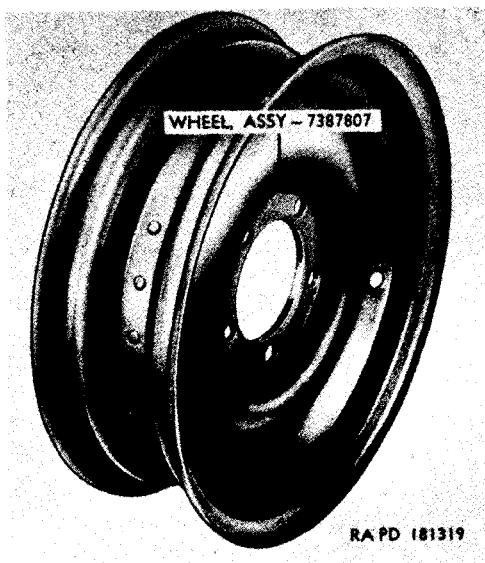

Figure 183. Wheel assembly.
The wheel assemblies (fig. 183) are of the offset type disk with five mounting stud holes. Wheels are interchangeable on front and rear axles, but hub nuts for the right and left wheels are not interchangeable. Left-hand thread hub studs and nuts are used on the left-side of the vehicle, while right-hand thread studs and nuts are used on the right-side of the vehicle. The hub nuts for the left-side of the vehicle are notched for identification. The serrated hub studs of all four wheels are pressed into the front and rear hubs. The front and rear hubs are secured to their respective brake drums by three bolts. The front hubs are mounted on opposed bearings. Each front hub is equipped with an oil seal. Each rear hub fits directly on a rear axle shaft and is locked to the shaft by a rear axle shaft key, rear axle shaft washer, rear axle shaft nut, and a cotter pin.
a. *Wheel Assemblies* (fig. 183). Remove tire and tube from each wheel assembly as directed in TM 9-804A.
- (1) *Wheel assemblies* (fig. 183). Carefully inspect wheel assemblies for distortion. Replace wheels, if necessary. Inspect wheels for good paint condition (chips, cracks, or bare metal). Inspect holes in wheel, which provide for mounting wheel on hub studs, for excessive wear due to loose wheel mounting. Replace wheel if hub stud hole wear is excessive. Replace all faulty hub nuts.
- (1) *Wheel assemblies* (fig. 183). Paint wheel assemblies, if necessary.
d. Wheel Assemblies (fig. 183). Install tire and tube assemblies on each wheel assembly as instructed in TM 9-804A.